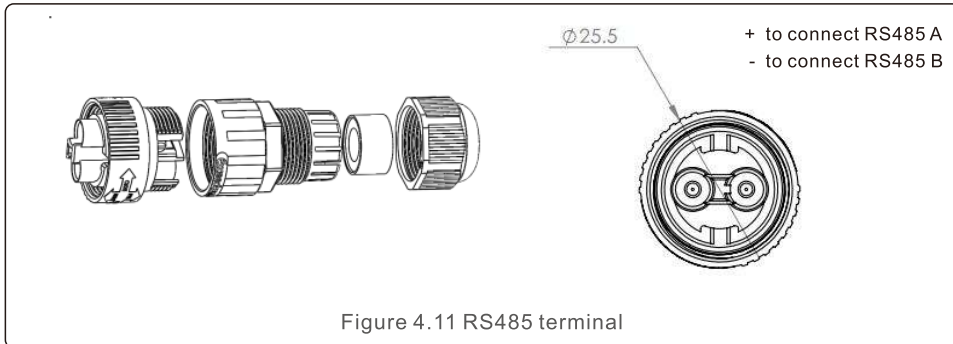

Figure 4.11 RS485 terminal
- a. Refer to figure 4.11, the RS485 terminals for inverter and EPM are already assembled.
- b. Refer to figure 4.11, connect communication cable between inverter with EPM, and then measure the distance from EPM to inverter. Use proper cable for RS485 connection. (0.5mm²)